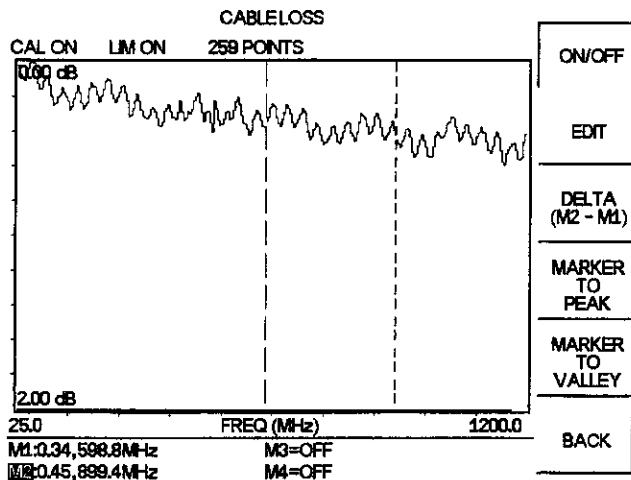

Figure 4-7. Cable Loss Measurement Results
**Step 36.** Repeat steps 1 and 2 for marker M2. Set M2 to 900 MHz (Figures 4-7 depicts a Cable Loss measurement).